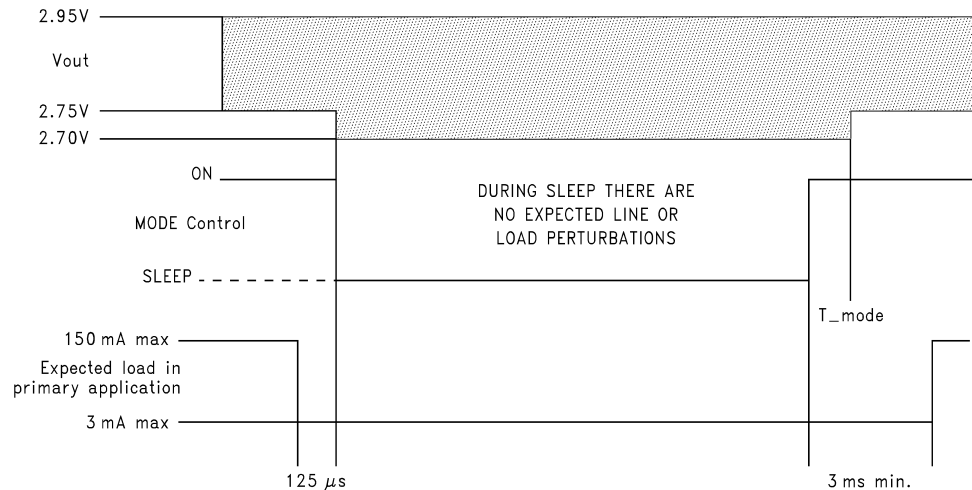
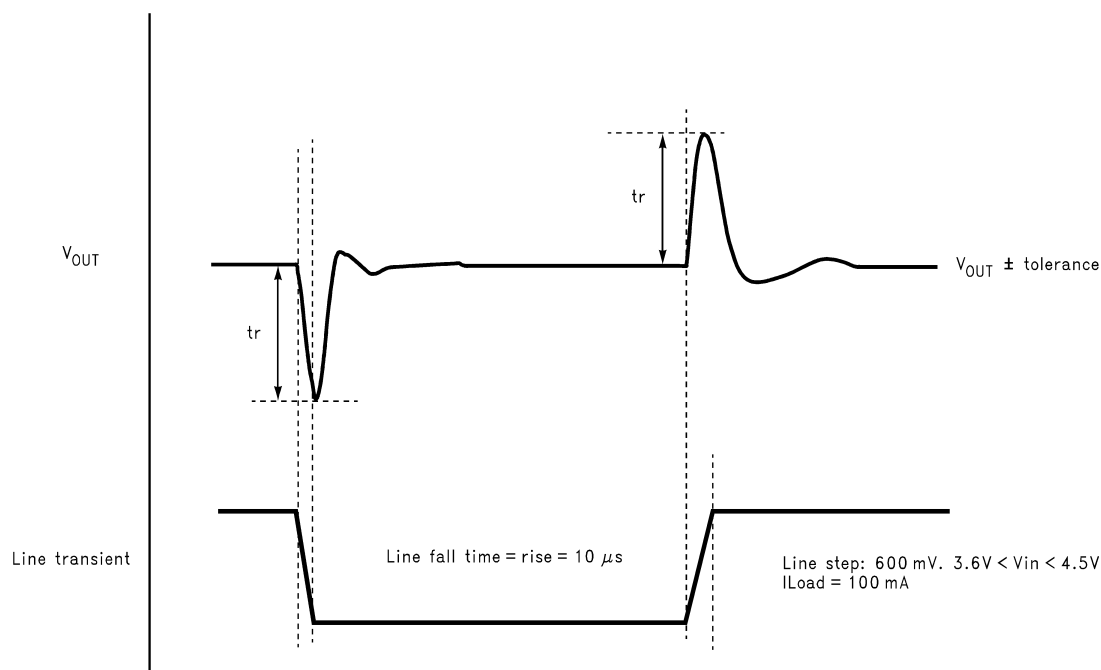

Figure 3.
Figure 4.
(1) Min and Max Limits are verified by design, test, or statistical analysis. Typical (Typ.) numbers are not verified, but do represent the most likely norm.
(2) The nominal output voltage, which is labeled $V_{OUT(nom)}$, is the output voltage measured with the input $0.5V$ above $V_{OUT(nom)}$ and a $1mA$ load.
(3) Dropout voltage is defined as the input to output voltage differential at which the output voltage falls to $100mV$ below the nominal output voltage. V_{IN} less than minimum operating voltage may be used for test purposes.
(4) On/Sleep Mode voltage tolerance and current capability requirement. See Figure 3.
(5) This electrical specification is specified by design.
(6) Line Transient response requirement. See Figure 4.